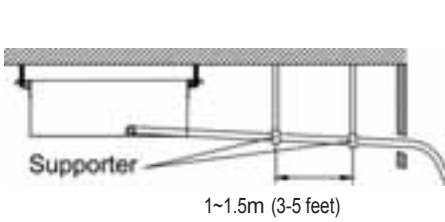

Fig. 4.22
- (3). When the hose is long, install supporters (Fig. 4.22).
- (4). Always use a drain hose which has been insulated properly.